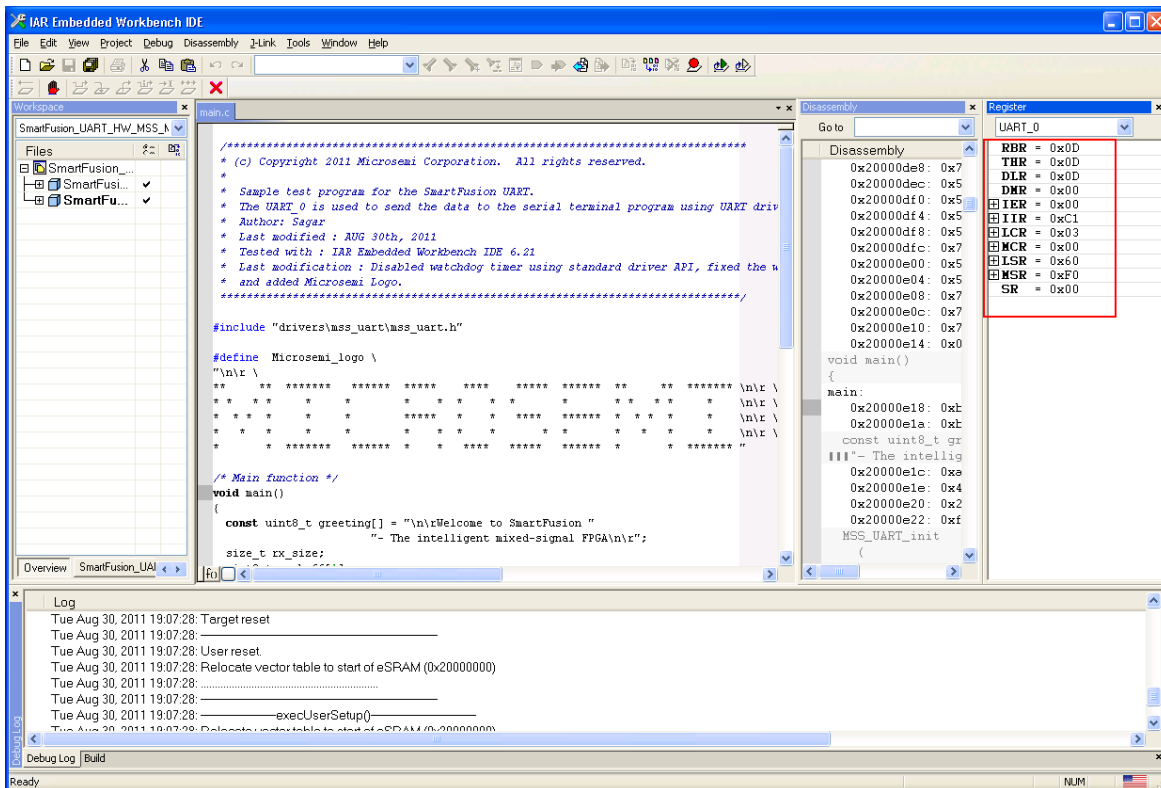

Figure 42 · Viewing UART\_0 in the Registers Pane
7. The UART registers are displayed, as shown in Figure 42 . .